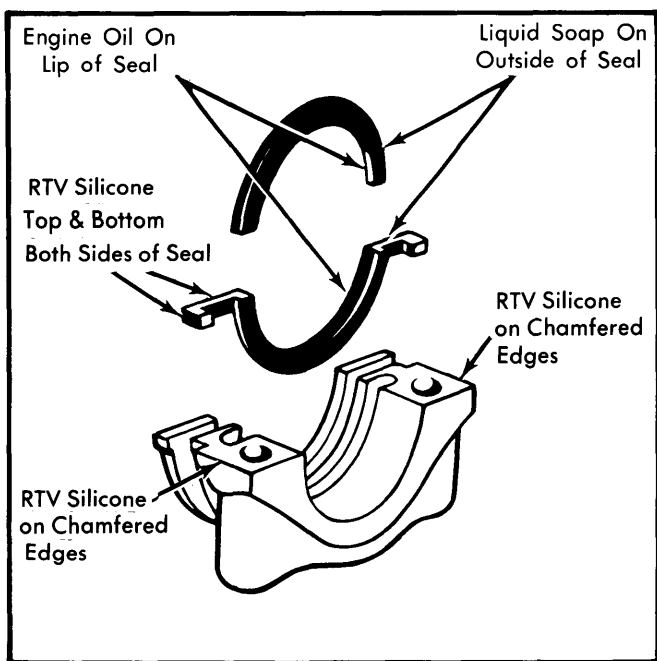

Fig. 6 Rear Main Oil Seal Installation Instructions (Note Where RTV Silicone Should be Applied)
**Removal** — Remove oil pan and rear main bearing cap. Loosen all remaining main bearing bolts. Using a brass drift, tap upper seal until seal is protruding enough to pull it completely out. Remove lower seal from bearing cap. See Fig. 6.
**Installation** — Reverse removal procedure while noting the following: Lip of seal must face toward front of engine. Ensure seal is firmly seated in bearing cap recess. Use suitable sealer and apply as indicated in Fig. 6.